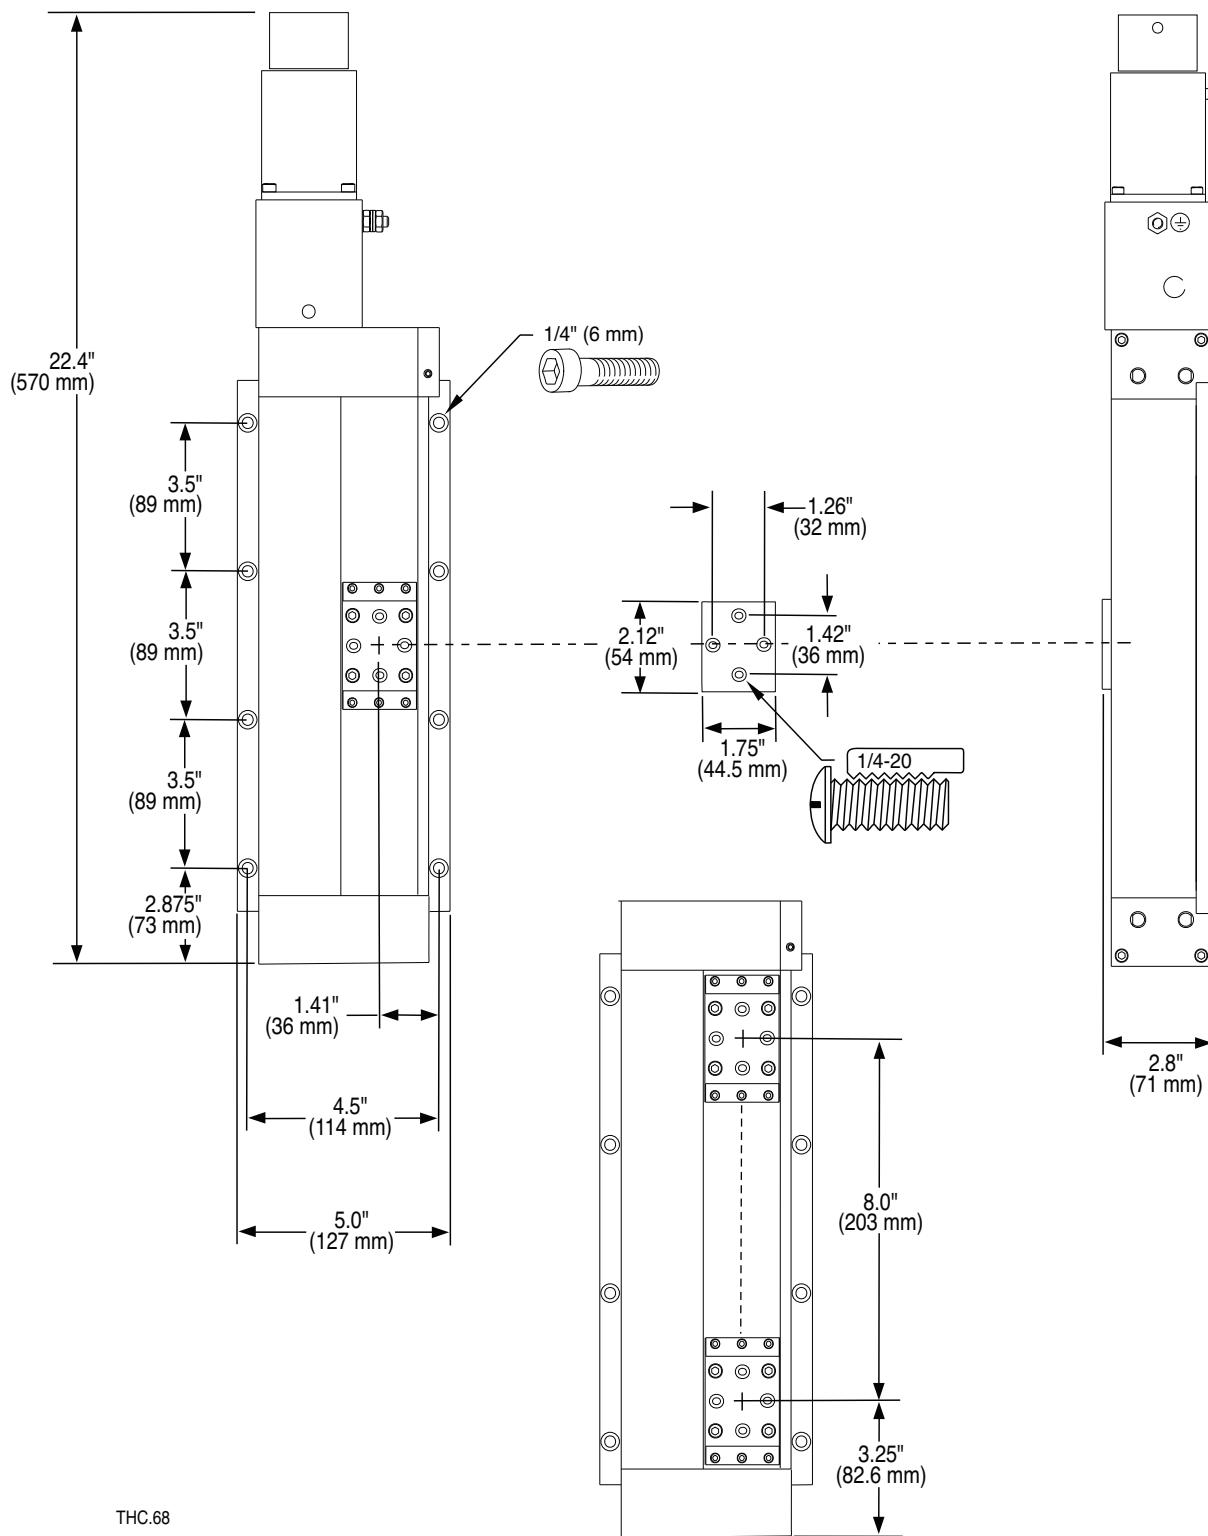

Figure 3-3 X-Y lifter assembly mounting
- Mount the X-Y lifter assembly on the cutting table. See Figure 3-3.